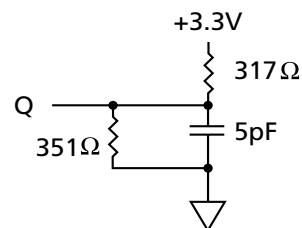

Figure 2
3. This parameter is measured with the output loading shown in Figure 2 unless otherwise noted.